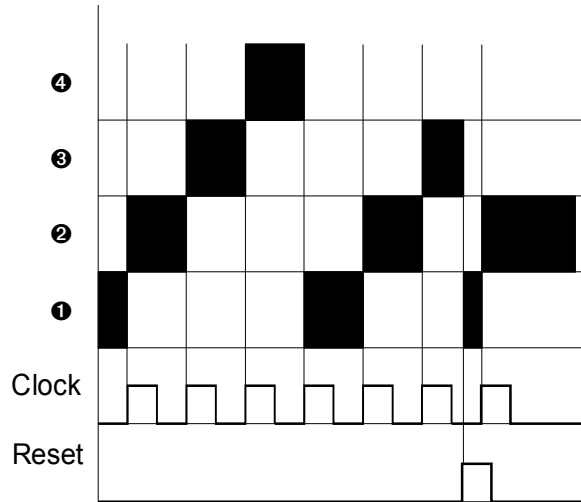

Fig. 1: How the A-151 switching works
After stepping to the fourth in / output the next trigger pulse sends the common out / input back to the first in / output again (see Fig. 1).
② Res. In
If you want to over-ride the stepping sequence, and send the common out /input back to the first in / output, send a reset pulse to the **reset input ②** (see Fig. 1). The rising edge of this pulse immediately resets the common out / input to the first in / output.
③ O/I
Socket ④ is the **common out /input**. Each time the A-100 is switched on, or a reset pulse is received, this socket is connected to the first in / output socket ④ (see Fig. 1).
④ I/O 1 • ⑤ I/O 2 • ⑥ I/O 3 • ⑦ I/O 4